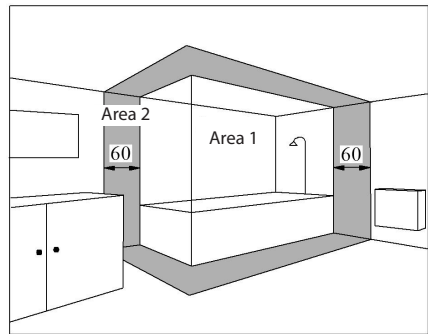

Fig. 3
5.5 The convector may be installed in rooms with high humidity - bathrooms, showers, pools (Fig. 3). It is prohibited to install the convector:
The placement of the convector on supports in the room is similar (see Fig. 3), while the distance from the rear wall of the convector to objects (furniture, curtains, etc.) should be at least 15 cm.